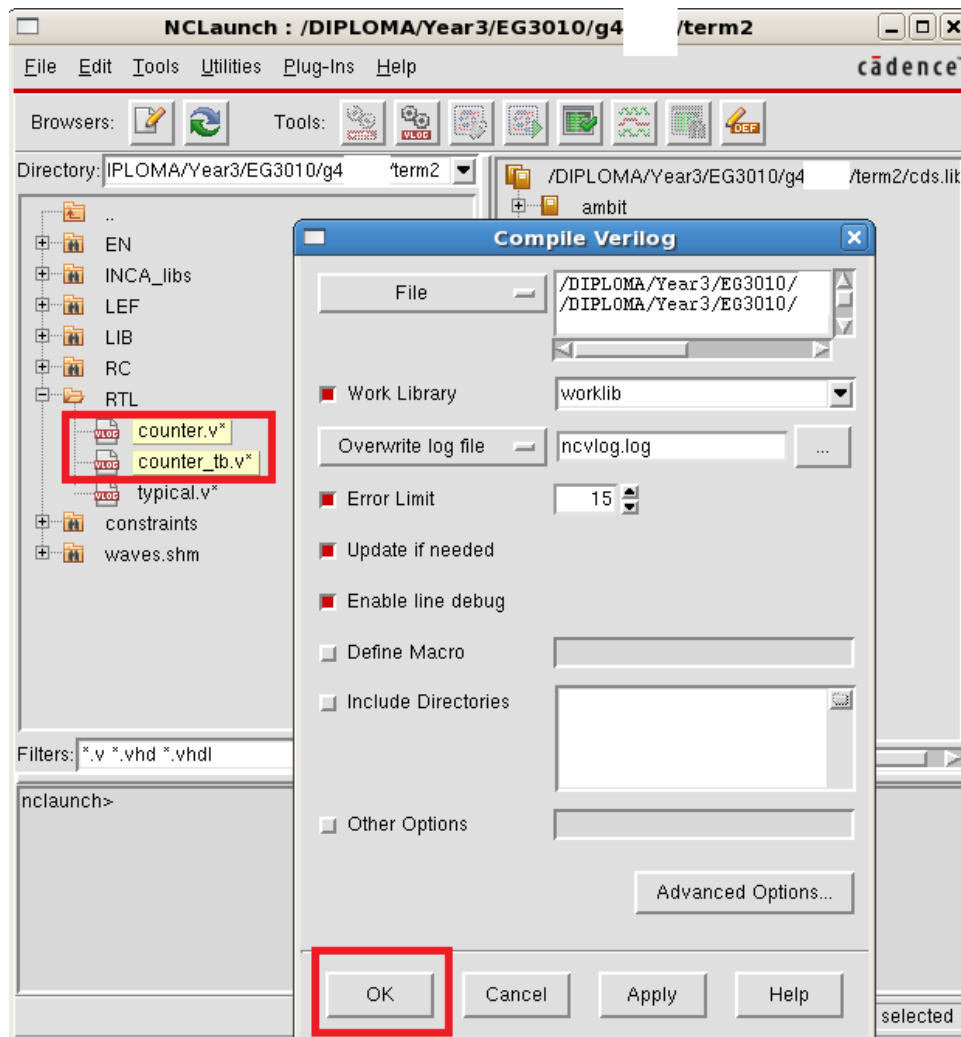

Figure 4 NCLaunch Window
5. Select **counter.v** and **counter_tb.v** (to select, press **Ctrl & click** on the file, as shown in Figure 4). **Right-click**→**NCVlog**. Then click **OK**. This will compile the verilog files to C code for faster simulation.